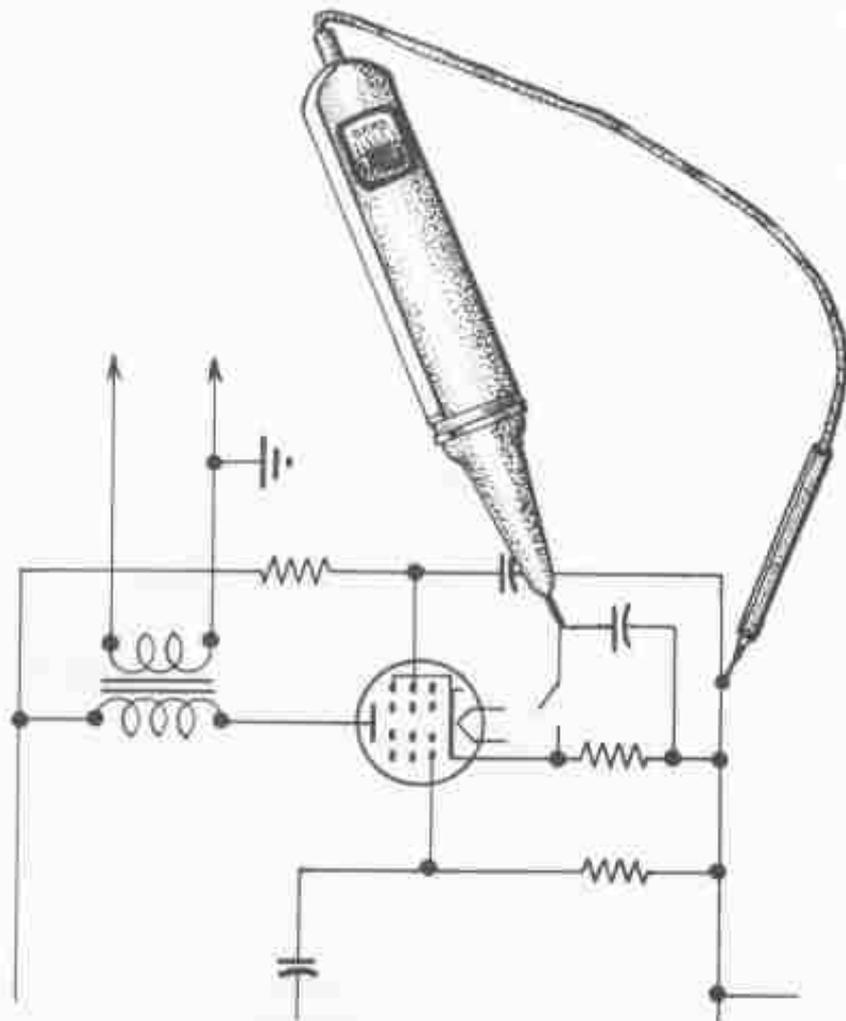

Figure 4-13. Checking an Electrolytic Capacitor in a Radio Receiver with Resistance Indicator-Probe
(1) This unit will measure approximate resistance values in the range from 0 to 10,000 ohms.
(2) It will indicate continuity of wiring.
(3) The forward and reverse resistances of crystal rectifiers and small copper-oxide rectifiers can be indicated. The tip of the Probe is positive.
(4) Electrolytic capacitors can be tested for shorts by placing the tip of the Probe to the positive side of the capacitor and return lead to the negative side with one end of the capacitor disconnected. Figure 4-13 shows the Probe being used to test an electrolytic capacitor.